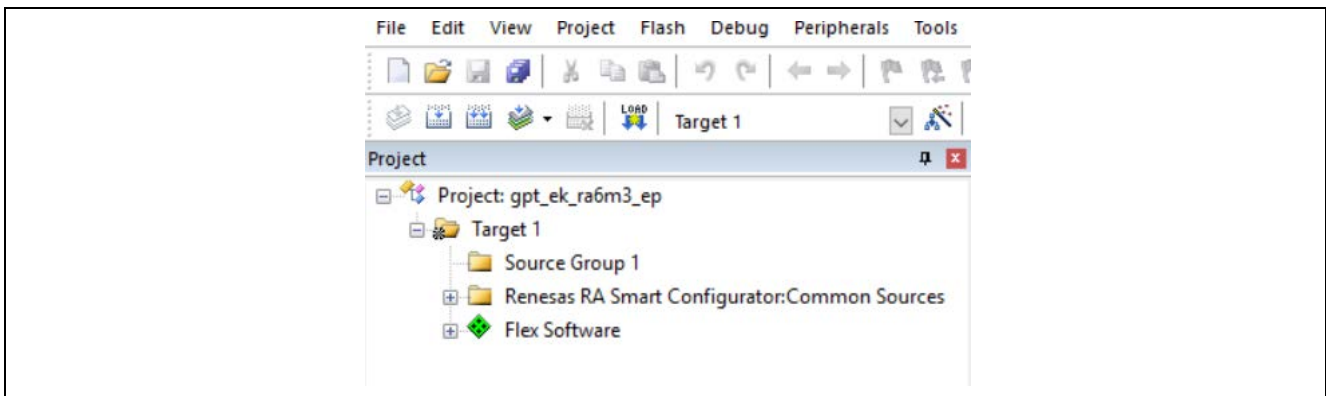

Figure 14. Project Structure
3. After opening the project, you should see the project structure as shown in Figure 14.